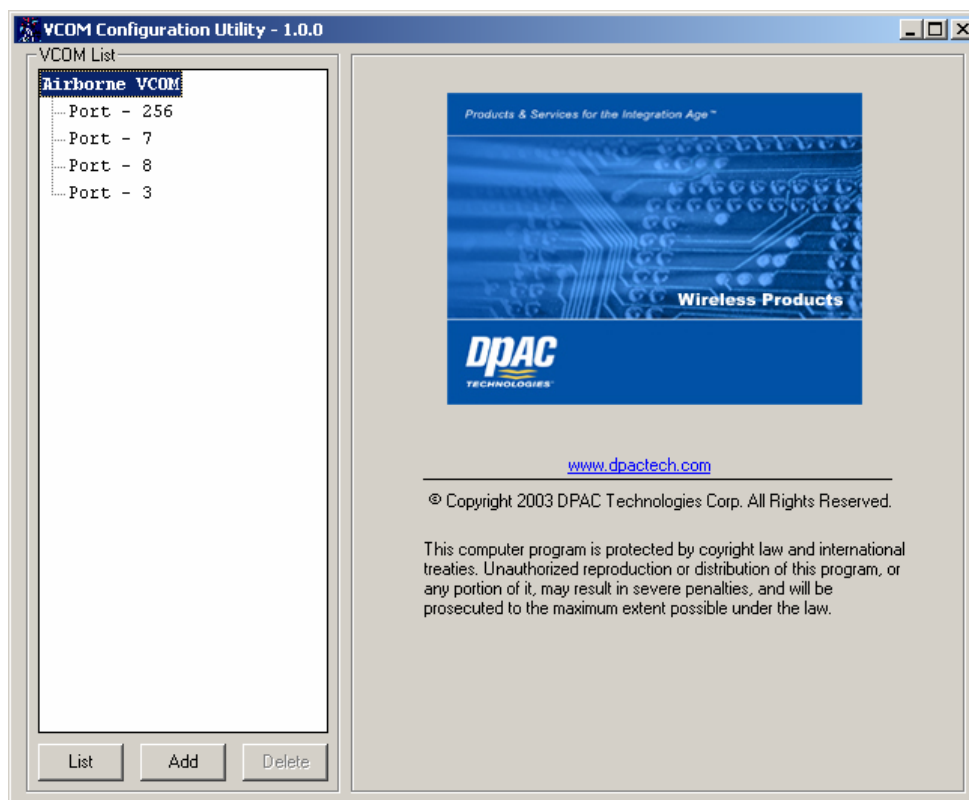

Figure 37. VCOM Configuration Utility Window
- Click **VCOM Configuration Utility**. The VCOM Configuration Utility window appears (see Figure 37).